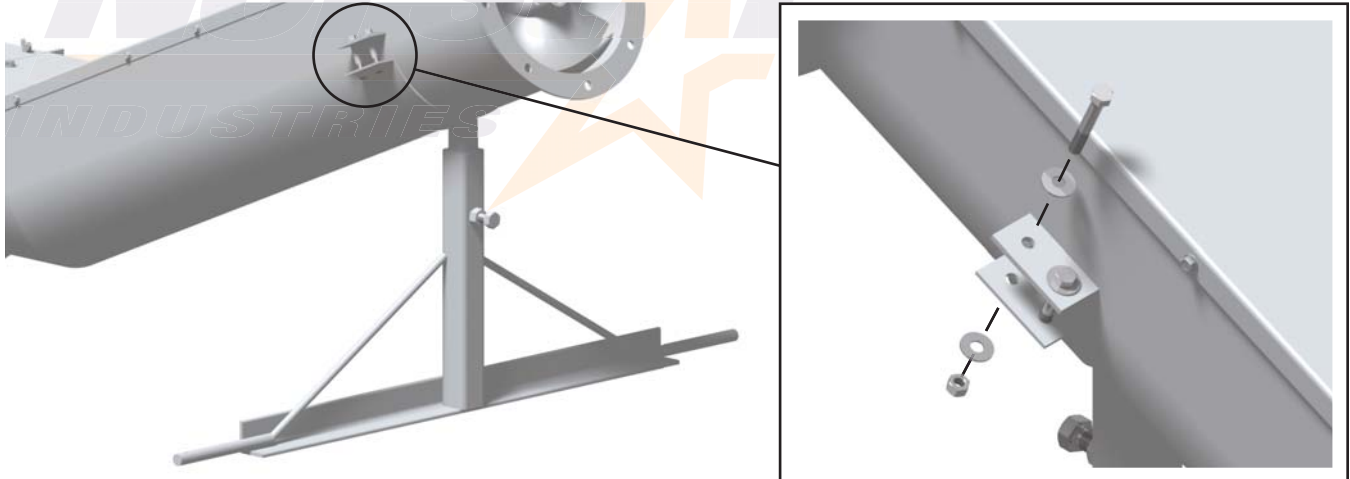

Figure 41
Once the Incline Stand is positioned, locate four (4) 3/8" x 2 1/2" Bolts, four (4) 3/8" Nylon Locknuts, and eight (8) 3/8" Flatwashers. Secure the Incline Stand to the Incline Assembly. (see **Figure 41**)